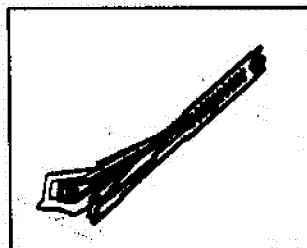

Figure 2
□ Step 2: Attach the fins to the lower-body surfaces. [Refer to Figure 2]